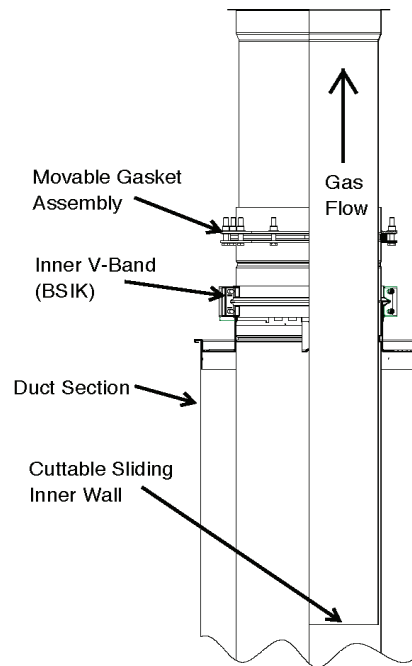

Figure 16 - Installation of Adjustable Length Steps 1 & 2
2. Secure the double flanged part of gasket collar assembly to the inlet end section with the inner V-band (BSI). See **Figure 16**.